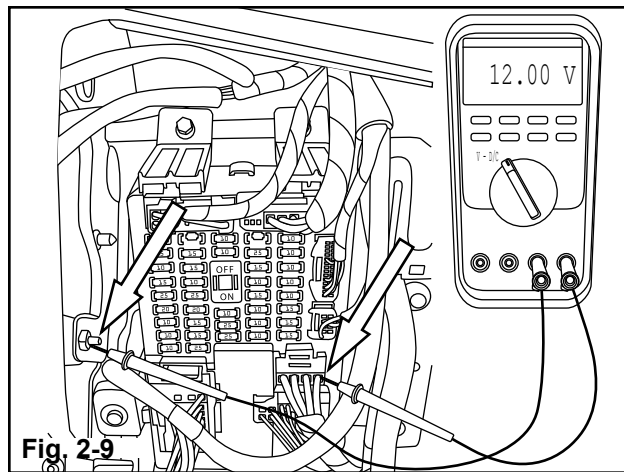

Fig. 2-9
- b) Using multi-meter, locate a wire exiting the junction block that tests +12 Volts and is controlled by the ignition switch. Operate the vehicles accessories (power windows, door locks, power mirrors, etc.) to ensure the voltage does not drop on this wire. **(Fig. 2-9)**